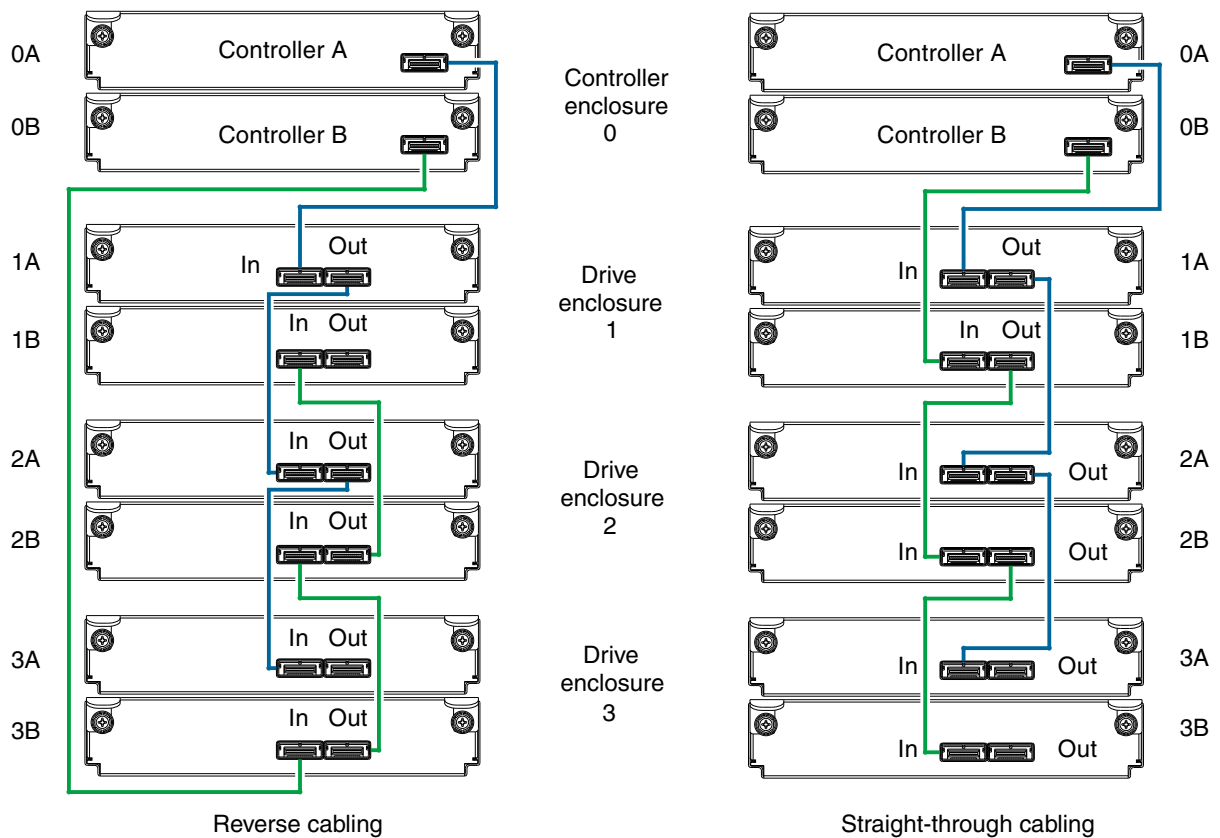

Figure 10 Fault-tolerant cabling between a dual-controller enclosure and four drive enclosures
For example, the illustration on the left in Figure 10 on page 24 shows reverse cabling, wherein controller 0A (i.e., enclosure-ID = 0; controller-ID = A) is connected to expansion module 1A, with a chain of connections cascading down (blue). Controller 0B is connected to the lower expansion module (B) of the last drive enclosure in the chain, with connections moving in the opposite direction (green). Cabling examples are provided on the following pages.
The 3004 Series controllers support cabling of 6 Gb SAS link-rate SFF and LFF expansion modules—in mixed model fashion—as shown in Figure 10 on page 24. The simplified rear-panel views of the J6G24 and J6G12 are identical.
- You may need to order additional or longer cables when reverse-cabling a fault-tolerant configuration (see Figure 10 on page 24).
NOTE: See Figure 10 on page 24 for a diagram showing the maximum number of 3004 Series enclosures that can be cabled together in the rack.
The two diagrams in Figure 10 show cabling configurations for the maximum number of 3004 Series enclosures allowed: four enclosures (including the controller enclosure).